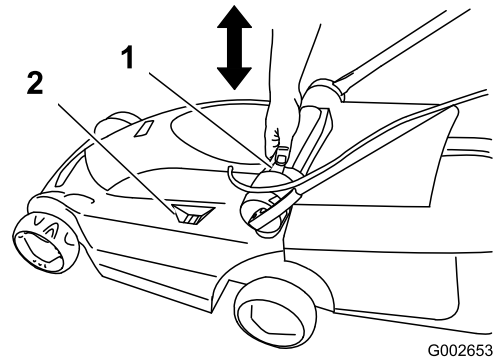

Figure 19
- Press down on the height-of-cut adjustment button with your thumb and push down or lift up the height-of-cut handle to the desired cutting height setting shown on the height-of-cut level reading (Figure 19).